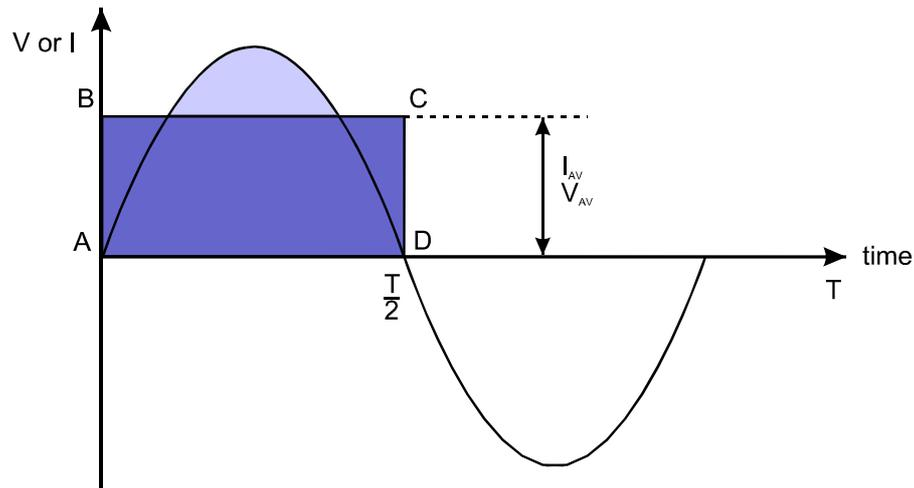

Figure 1.21
- Average value.** Normally the average value of a sine wave is zero. During the first half-period the electrical current transfers electrical charges in one direction through the conductor. Then, during the second half-period the current transfers the same amount of charges in the opposite direction. Therefore, the net charge transferred is zero. For this reason, the average value of a sine wave is calculated for a half-period (half-cycle) only. The polarity of the half-cycle is not important and the average value could be calculated for either one of the half-cycles. Figure 1.21 shows the average value graphically.
The area enclosed from the positive half-period represents the amount of electrical charges transferred through the conductor for this half-period. Let us assume that the area enclosed from the positive half-period is equal to the area of the rectangular ABCD (see Figure 1.21). The area enclosed from the rectangular ABCD represents the same amount of electrical charges, transferred for the same time, through the same conductor, but as if a direct current with a magnitude, equal to AB flows through it. The energy dissipated, and the work done from the alternating current will be equivalent to the energy dissipated and the work done from the direct current.